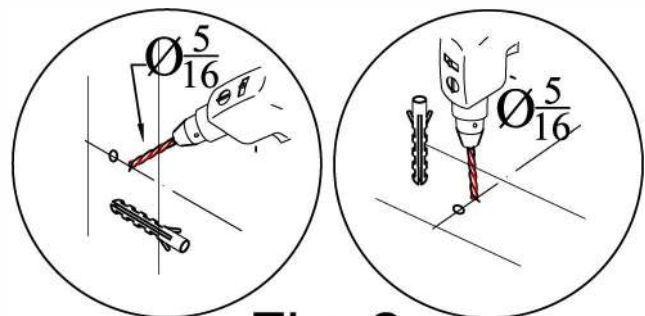

Fig. 2
2. Using the appropriate drill bit for your wall and floor surface drill each hole location with a $\frac{5}{16}$ " diameter drill bit. Install the plastic wall anchors provided into the drilled holes. See Fig.2 for details